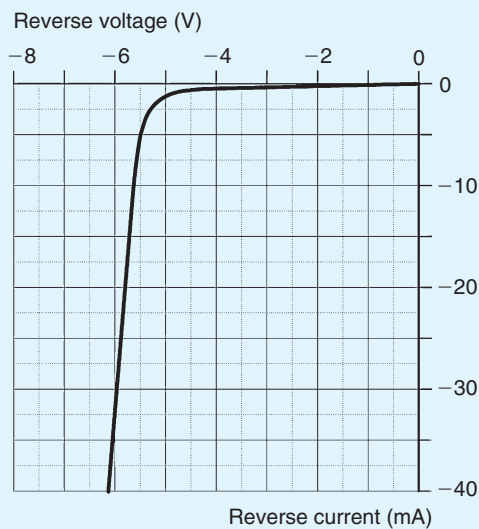

Figure 11.21
6. The graph shown in Fig. 11.21 was obtained during an experiment on a Zener diode. (a) Estimate the Zener voltage for the diode. (b) Determine the reverse voltage for a reverse current of -20 mA . (c) Determine the reverse current for a reverse voltage of -5.5 V . (d) Determine the power dissipated by the diode when the reverse voltage is -6 V .